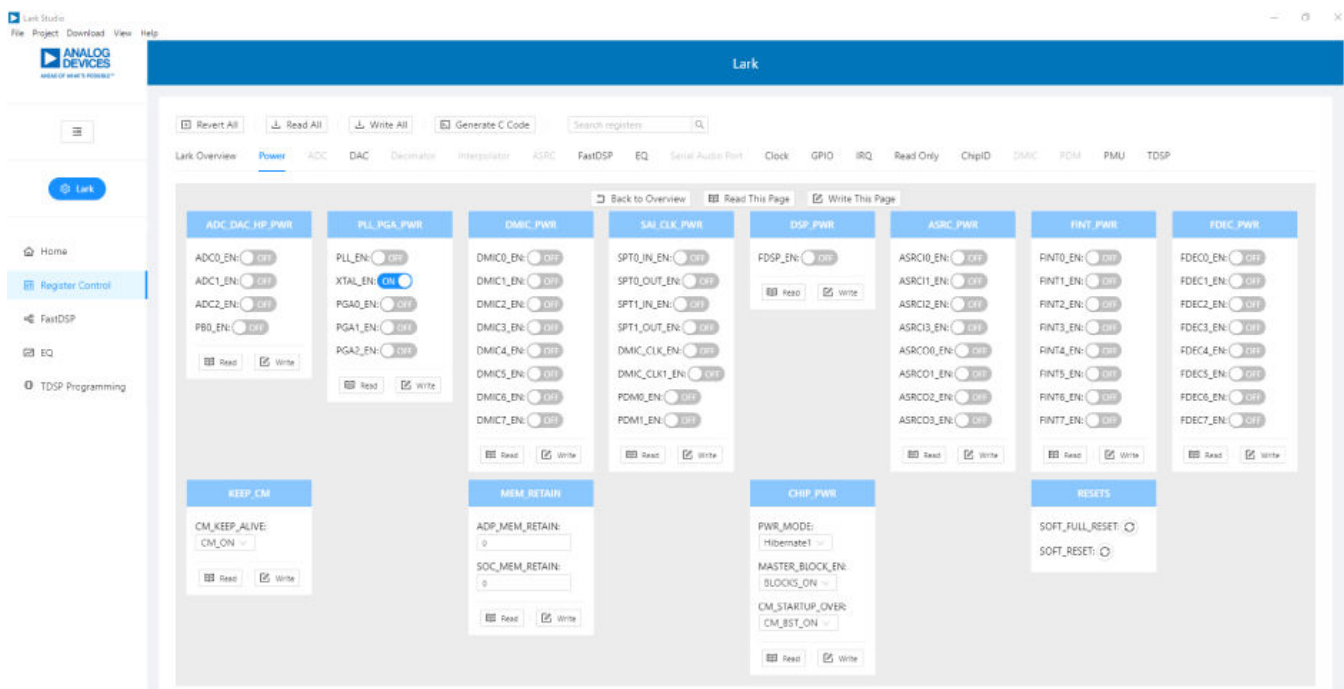

Figure 5. Register Configurations
Configure the **Register Control**, **FastDSP**, and **EQ** settings on the left navigation panel. **Lark Register Control** has multiple tabs that control different sections of the ADAU1860. Figure 5 shows the **Power** tab, which allows the user to power up or power down various blocks within the ADAU1860. When a block is powered up, that block can be configured.
1. Select **Hibernate1**, **BLOCKS_ON**, and **CM_BST_ON** in the **CHIP_PWR** block in the **Power** tab, and then click **Write** (see Figure 5).